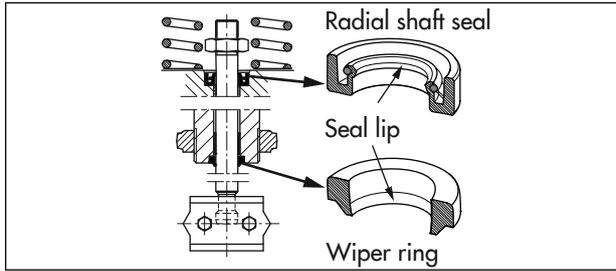

Fig. 19: Aligning the radial shaft seal and wiper ring
6. Use a suitable tool to mount the radial shaft seal. Observe the correct alignment of the radial shaft seal (see Fig. 19).